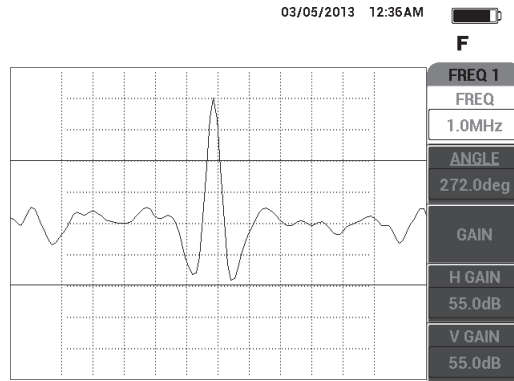

Figure 3-1 Example display for aircraft fastener hole inspection
- b) Insert the probe into the test block. When the probes moves across the flaw, a large signal peak is displayed (see Figure 3-1 on page 31).